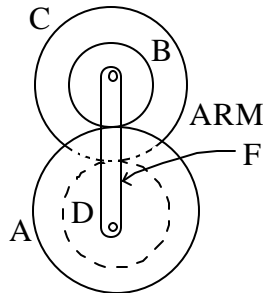

Fig. 8.1
8. (a) In a reverted epicyclic train shown in Fig. 8.1 the arm F carries two wheels A and D and a compound wheel B-C. Wheel A meshes with wheel B and wheel D meshes with C. The number of teeth on A = 40; B = 24 and C = 36.